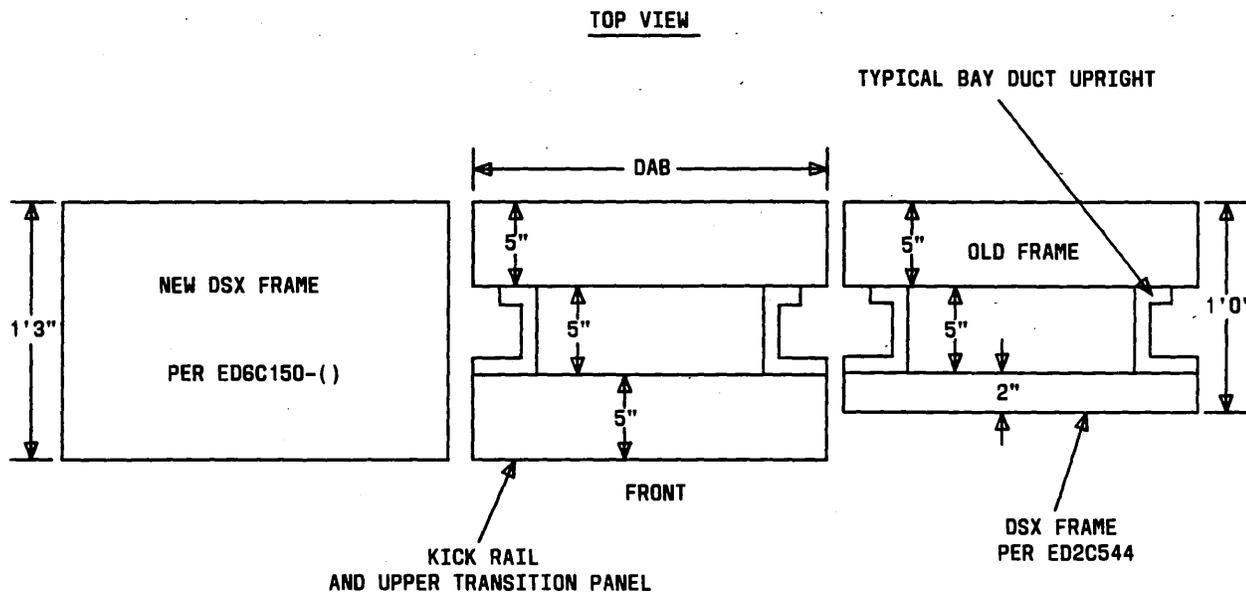

Fig. 3—Alignment of 800-Series Bays
3.02 As shown in Fig. 3, the new ED-8C501 bays used for the 800-series DSX equipment is installed adjacent to the old bays, with the closed sides of the ducts aligned. This reduces the front-aisle spacing by 3 inches. for the new 800-series DSX bays.